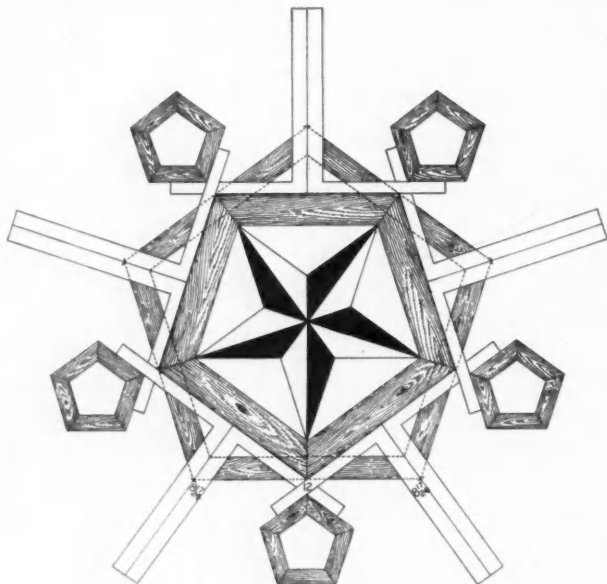

Fig. 23.
**B**EGINNING where we left off in our last article, we have one more pentagonal illustration as shown in Fig. 23, we wish to present before passing on to some of the other polygons. We could go on and show other positions of the steel